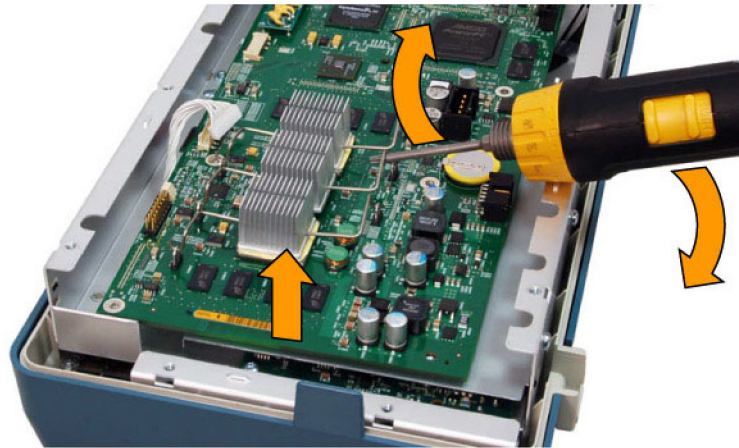

Figure 10: Disconnecting the main board
9. Use a screwdriver or other bar to pry the main board up, to disconnect the connection to the Attenuator board. Place the point of the screwdriver under the middle heat sink spring and use the chassis edge as the fulcrum. (See Figure 10.)